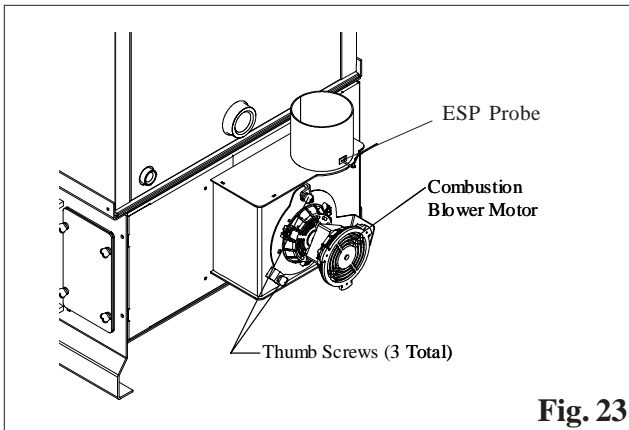

Fig. 23
Loosen the three (3) thumb screws about 4 turns each. See Fig. 23. Hold the motor head with one hand and the blower plate handle with the other hand. Pull outward on the plate handle until the complete unit comes loose. Now rotate the plate counter-clockwise about 1/8 turn. This will allow the complete assembly to be removed from the blower chamber.